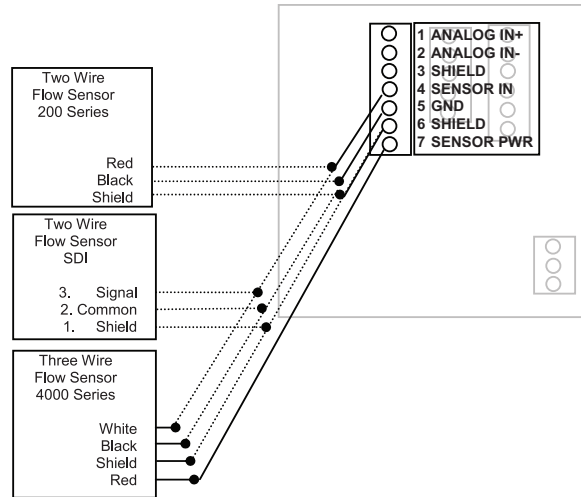

Figure 4: Data Industrial Flow Sensor Wiring Examples (Two- and Three-Wire Pulse Types)
**NOTE: All the above pulse input types wire the same as shown in Figure 4. See the Programming Flow Chart on page 16 for required input configuration.**